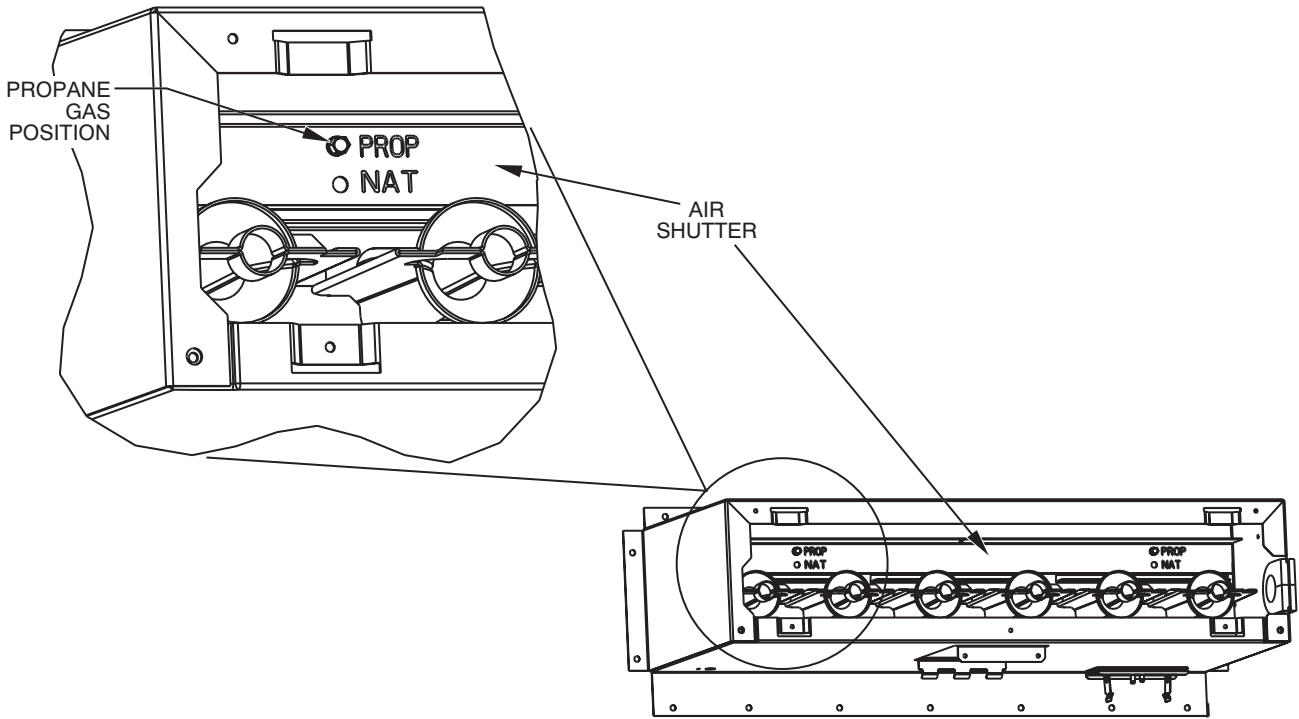

Fig. 52 - Air Shutter In Propane Gas Usage (PROP) Position
1. Reposition air shutter to propane gas usage (PROP) position. (See Fig. 52). Screws will now be located in the shutter next to the PROP stamp.